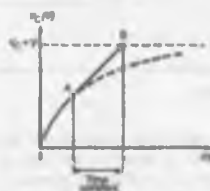

Figure 18.3
- (b) With reference to Fig. 18.3, let the constant voltage supply be replaced by a variable voltage supply at time t_1 seconds. Let the voltage be varied so that the current flowing in the circuit is constant.